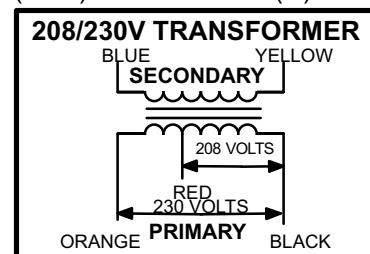

FIGURE 2
primary voltage taps as shown in figure 2, while 460 (G) and 575 (J) voltage transformers use a single primary voltage tap.